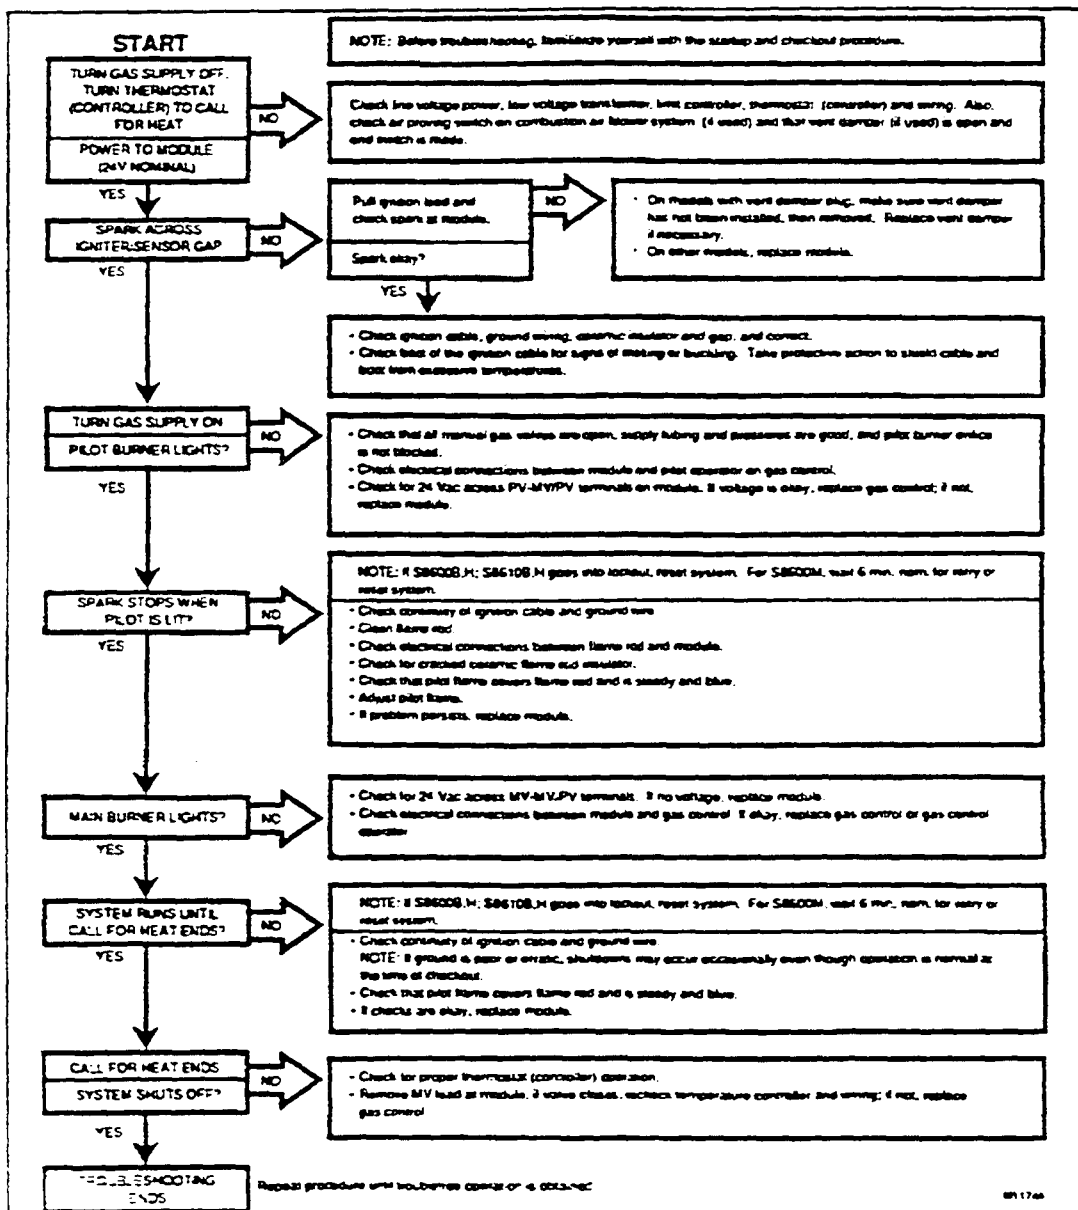

Fig. 14—S8600, S8610 Troubleshooting guide.
Perform the checkout on page 11 as the first step in troubleshooting. Then check the appropriate troubleshooting guide (Fig. 14 or 15) and the schematic diagram (Figs.16-17) to pinpoint the cause of the problem, see Ignition System Checks below to isolate and correct the problem.
- If main burner doesn't light or if main burner lights but system locks out, check module, ground wire and gas control as described in appropriate troubleshooting chart, Fig. 14 or 15.